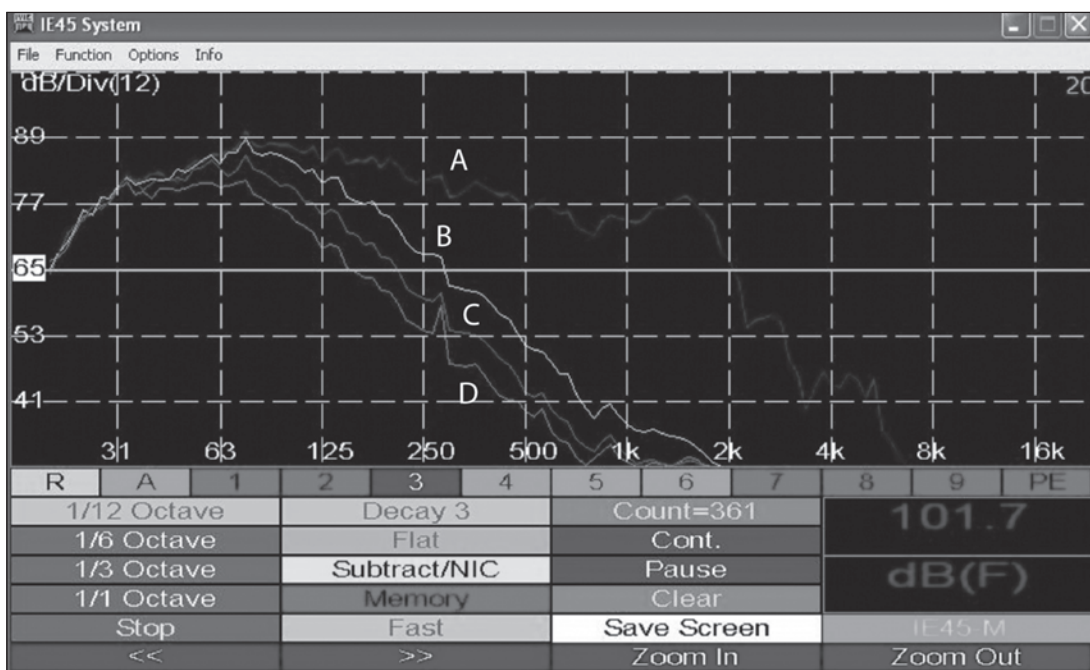

FIGURE 1: The IE45 RTA software showing measurements of the subwoofer's measured response to a pink noise signal.
Using this arrangement, I made several measurements, and the results can be seen in **Fig. 1**. The vertical scale shows dB SPL at the microphone. The curve (A) shows the response with the subwoofer's low-pass filter disabled (turned off). The curve peaks at around 100Hz with a level of 90dB or so, and falls off either side